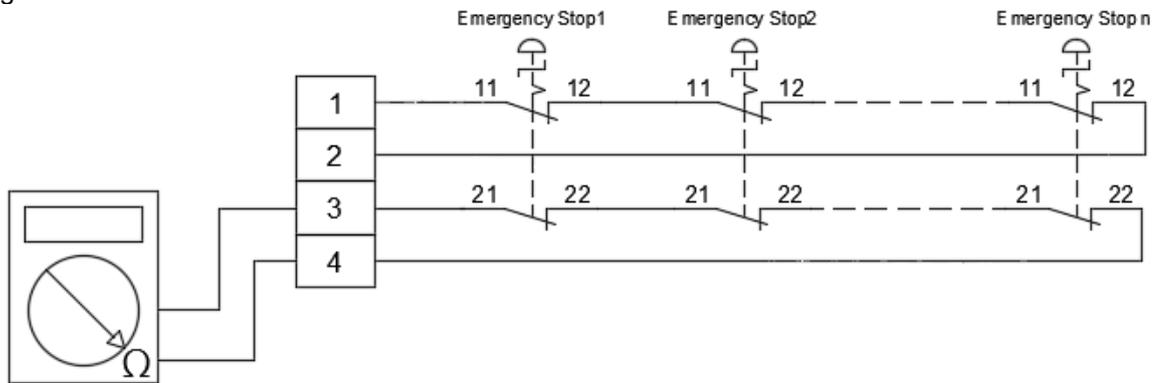

Figure 8.16 Reset emergency stop signal and measure Pin3 and 4
4. Measure Pin 3 and Pin 4 of the safety connector; the reading on the multimeter must be $< 0.5 \Omega$, as shown in Figure 8.16 below.